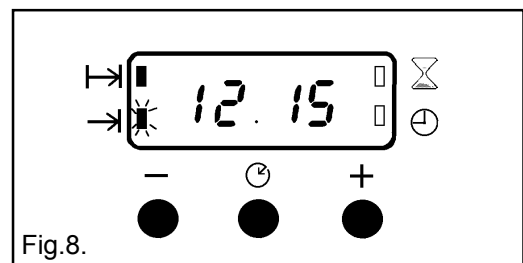

Fig.8.
- v) To set the 'End Time'. Press the Selector Control button until the 'End Time' () flashes. Press the increase control (+) until the required stop time is displayed, e.g. 12.15 p.m. as Fig. 8. If necessary depress the decrease control (-) until the correct time interval is achieved.